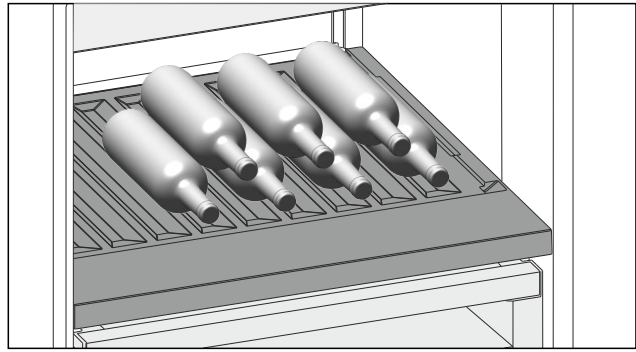

Fig. 195 Example illustration
- ▶ Place bottles in the back row with their bases against the back wall. (see Fig. 195)